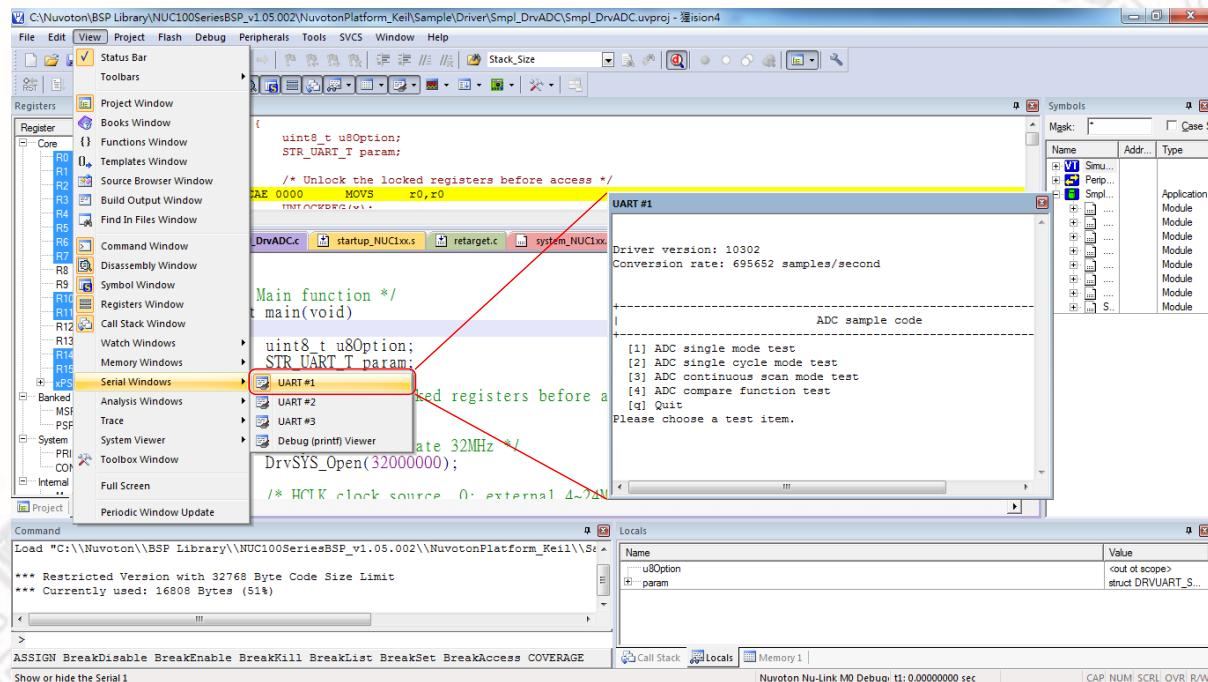

Figure 3-4 Semihost Options in Keil Debug Mode
When using the Semihost function, the message of the NuMicro™ Family microcontroller can be output through UART to the debug window by the Nu-Link Adapter. That is, the message is output without the GPIO. Figure 3-4 shows the debug messages in the “UART #1” form, which are the messages output by the Nu-Link Adapter.
Step 3: In Debug mode, invoke **View → Serial Windows → UART #1**, as shown in Figure 3-4.